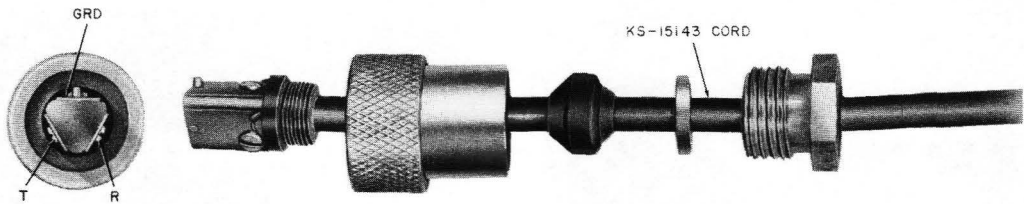

Fig. 43—KS-8419 Plug (MD)
(3) Place cover on base and tighten screw.
D. KS-8419 (MD) Plug
6.08 The KS-8419 plug (Fig. 43) is a 3-contact, brass plug intended for connecting telephone sets installed on boats, trains, or auto trailers to outdoor jacks of PBX or CO lines. This plug is intended for use with KS-8420 or KS-8421 jacks.
- (1) Plug components are assembled to KS-15143 3-conductor, 18-gauge cord, or equivalent (Fig. 43).
- (2) In KS-15143 cord, or equivalent, the black conductor should be used for the ring (negative) side of the line. The white conductor should be used for tip (positive) side of the line. The green conductor is the ground conductor.
- (3) One terminal of the KS-8419 plug has a small lug protruding from the contact. This lug and the notched terminal on KS-8420 and KS-8421 jacks are provided to ensure that the plug is inserted in one position only.
- (4) When ground is necessary for service, the green conductor should be terminated on the notched terminal.